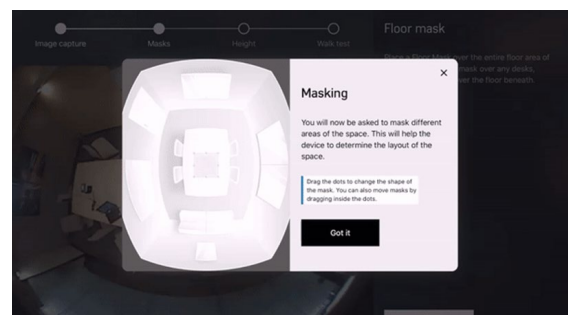

Figure 9. In App Animation Guiding the User Through the Commissioning Process
5. Define all commissioning masks to set up the monitored space (see Figure 9). Each step is explained in the app with instructions and animations.